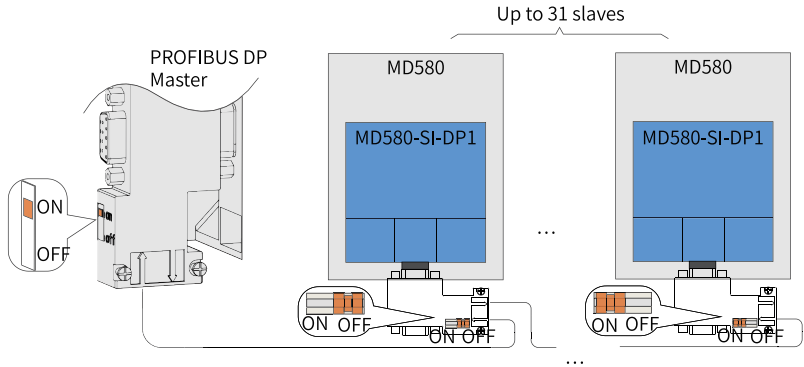

Figure 3-4 Multi-device system connection without any repeater
- For multi-device system connection without any repeater, connect termination resistors at the head and end, as shown in *"Figure 3-4 Multi-device system connection without any repeater"* on page 13.